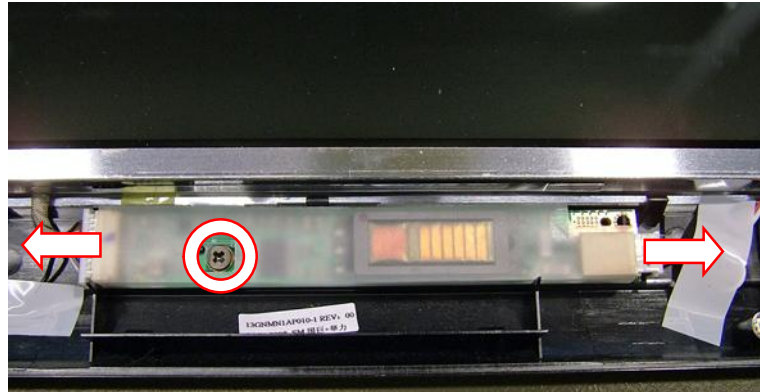

Fig. 42 Location of inverter board.
2. Remove the screw securing the inverter board (see Fig. 42).
1. Disconnect the cable on both ends of the inverter board (see Fig. 42).